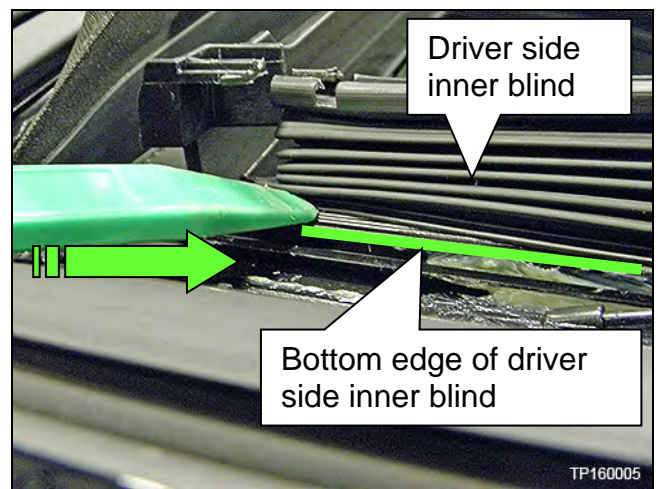

Figure 4
- c. Carefully detach the inner blinds from the Moonroof frame by pushing toward the inside of the vehicle along the bottom edge of inner blind (Figure 4).